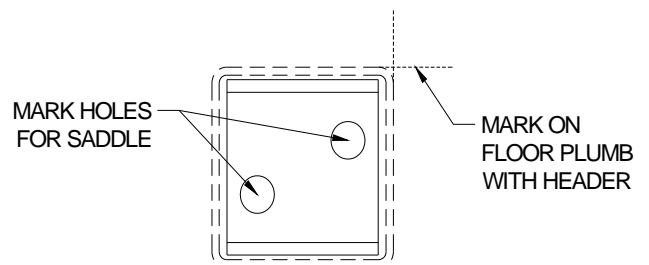

Figure 5.7 – Tube Saddle Hole Location
5. Use the mark placed on the floor in the previous steps, to locate where the saddle will be and mark the hole locations by placing the saddle on the floor. See **Figure 5.7**.